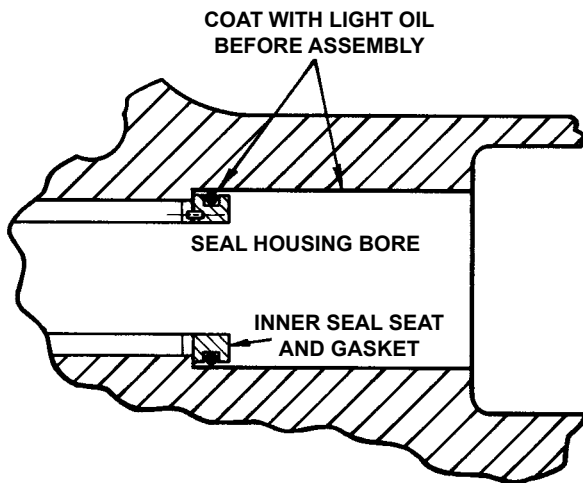

FIGURE 12
3. Coat the outside of the inner seal seat and O-ring gasket and also the inside diameter of the seal housing bore with light Refrigeration Oil (not grease), **see figure 12**. Press the inner seal seat with O-ring gasket into place in the seal housing bore with your fingers or by putting a piece of cardboard over the face of the seal seat and press with a block of wood or squared off piece of pipe. Remove the cardboard. **Figure 13** shows how the inner seal seat pin fits into either of the slots in the end of the bracket bushings. Be sure the pin engages one of these slots in the bushing when you have finished pushing the seal seat into the seal housing bore. Check by looking through the bracket bushing from the casing end.